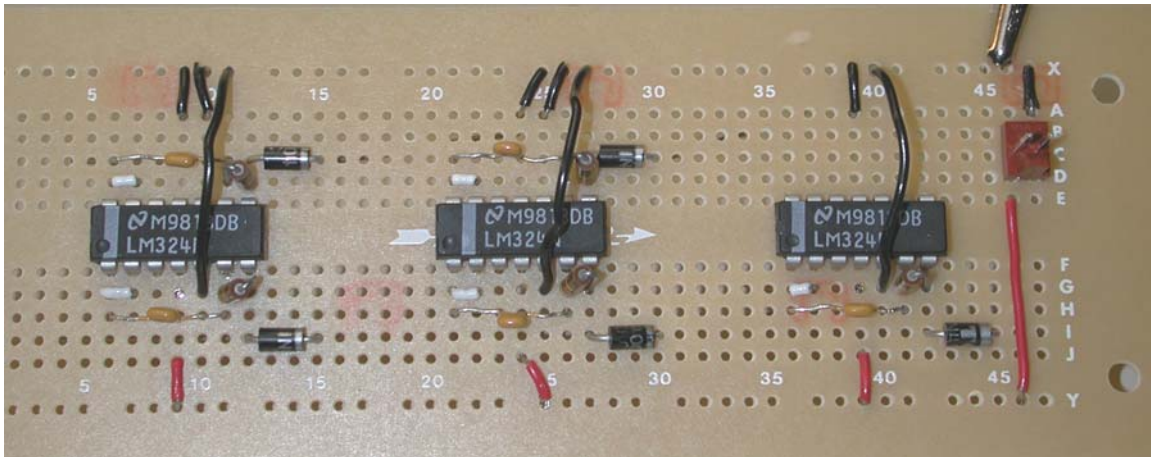

Figure 5: Diodes and grounding
- Figure 5 shows the placement of the five diodes. Make sure the banded side of the diode is not connected to pin 7 or 8 of the chips.